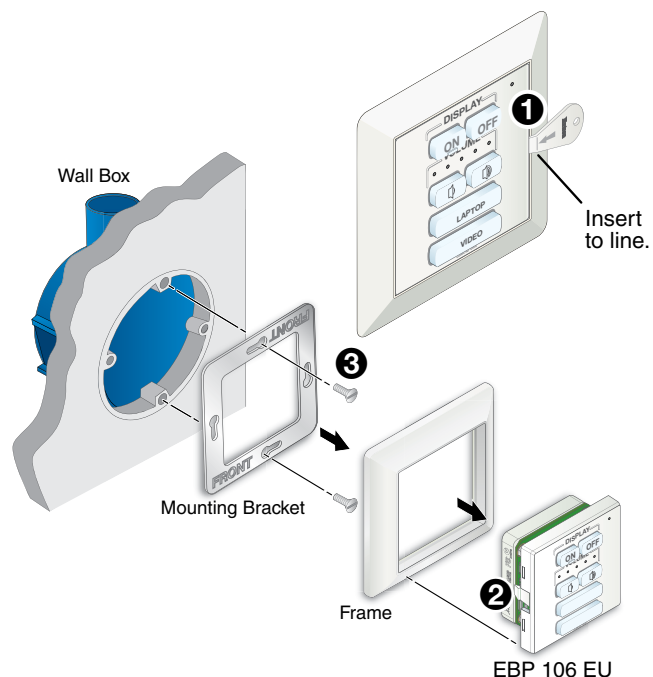

Figure 17. Removing the EBP 106 EU
1. Insert the provided Extron removal tool into the gap between the side of the button plate and the frame (figure 17, ①). The tip of the tool should be inserted to the depth of the line marked on the tool.
2. Slide the removal tool along the gap until the catch on the side of the button plate (②) is released.